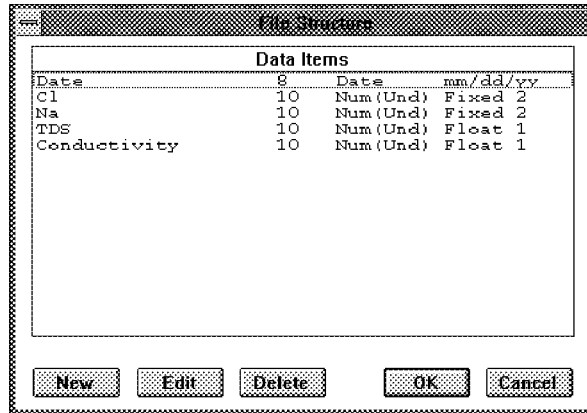

Figure 20-19
6.Repeat the same for TDS and for Conductivity, but select floating point for the data type, and decrease the number of decimal digits to 1. The list should now contain 5 parameters as shown in Figure 20-19.